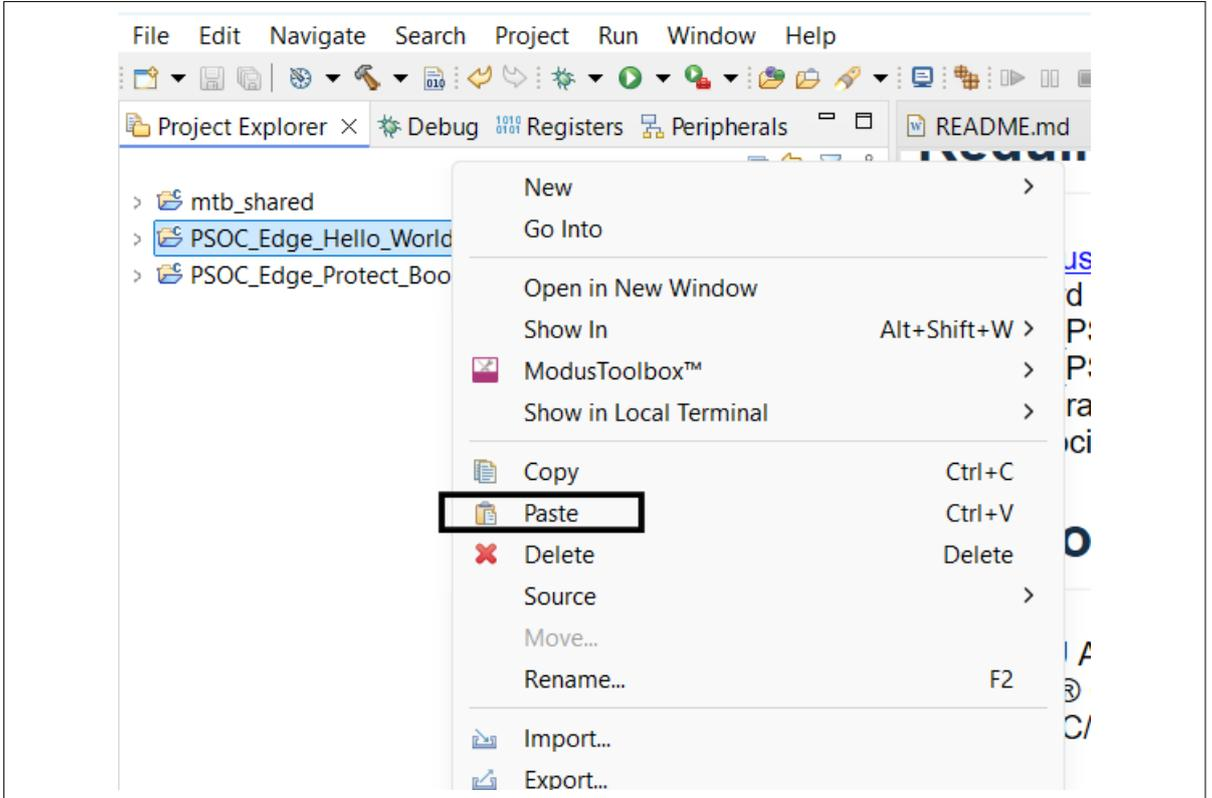

Figure 7 Paste the proj_bootloader to the application folder
- 3. Paste it to the root of **Hello world** as shown in Figure 7